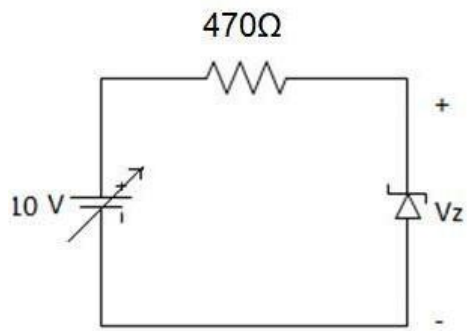

Figure: 5.3- Reverse Biased Zener
1. Connect the circuit as shown in the figure 5.3